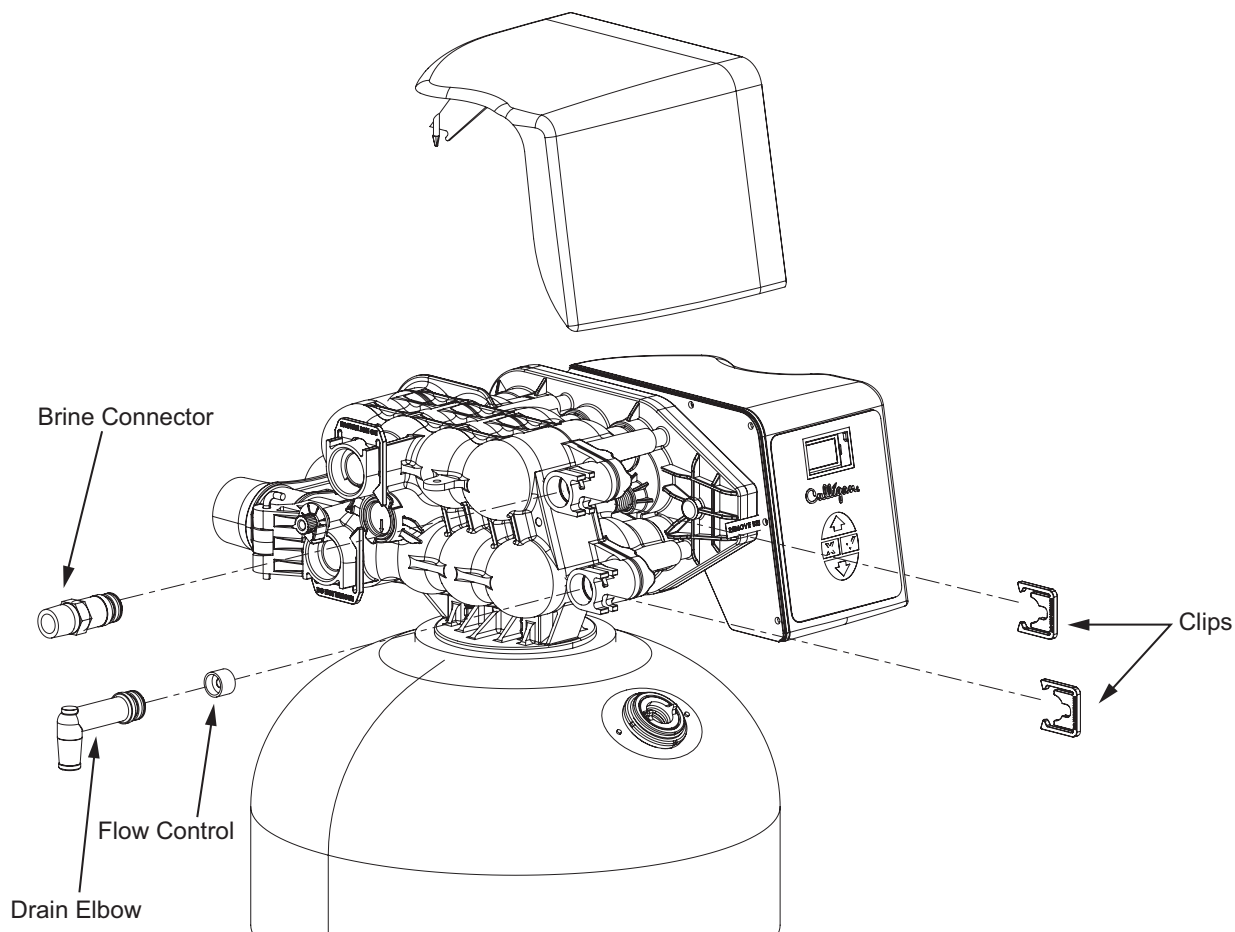

Figure 62. Brine line.
3. Remove the snap clip which retains the brine line adapter and drain line. (Note that it is easier to do this if you first remove the wing-screws that retain the HE electronics enclosure.) See Figure 62.